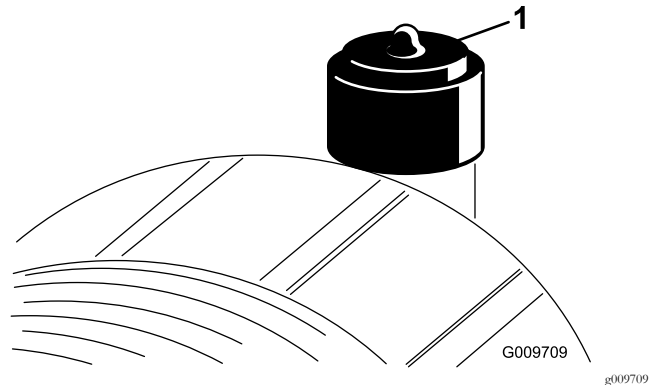

Figure 39
Service the air-cleaner filter only when the service indicator (Figure 39) requires it. Changing the air filter before it is necessary only increases the chance of dirt entering the engine when you remove the filter.
2. Reset the indicator (Figure 39) if it shows red.